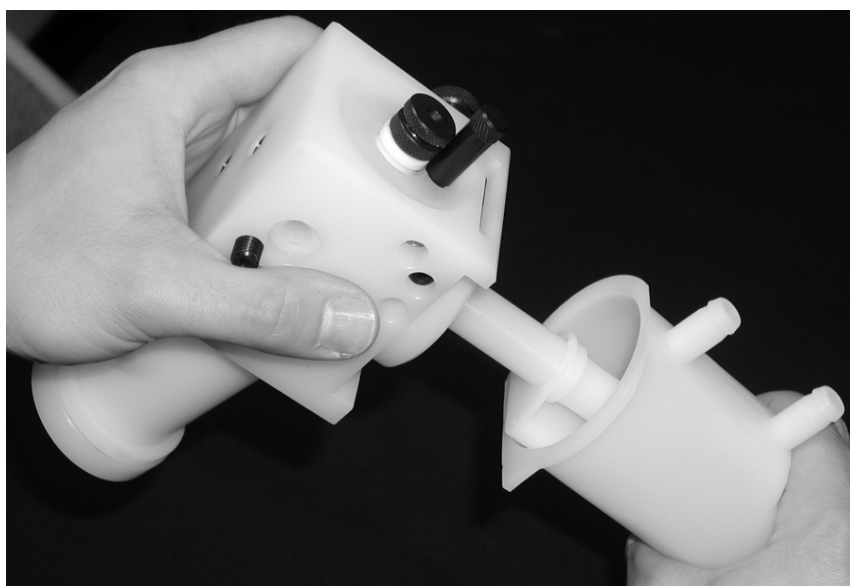

Figure 2. Lower the drain tube and float into the trap
- 2** With the two vent nipples aligned with the nebulizer, lower the drain tube into the trap, ensuring that the float drops into the space between the two ribs that are opposite the two vent nipples. Refer to Figure 2.